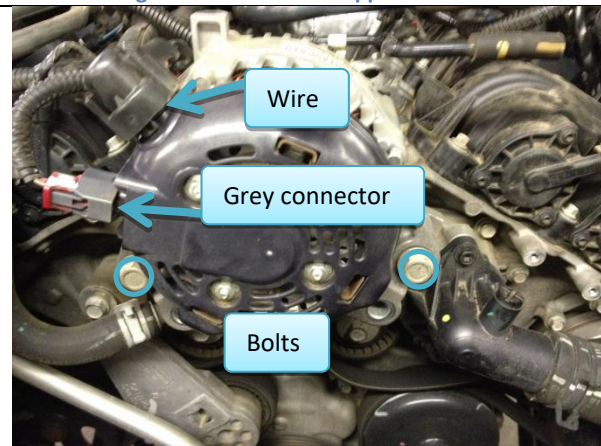

Figure 29: Alternator after removal of support bracket.
17.2. Disconnect grey connector from alternator (Figure 29)
17.3. Disconnect wire from top of alternator (Figure 29)
17.4. Remove two bolts on alternator (Figure 29)